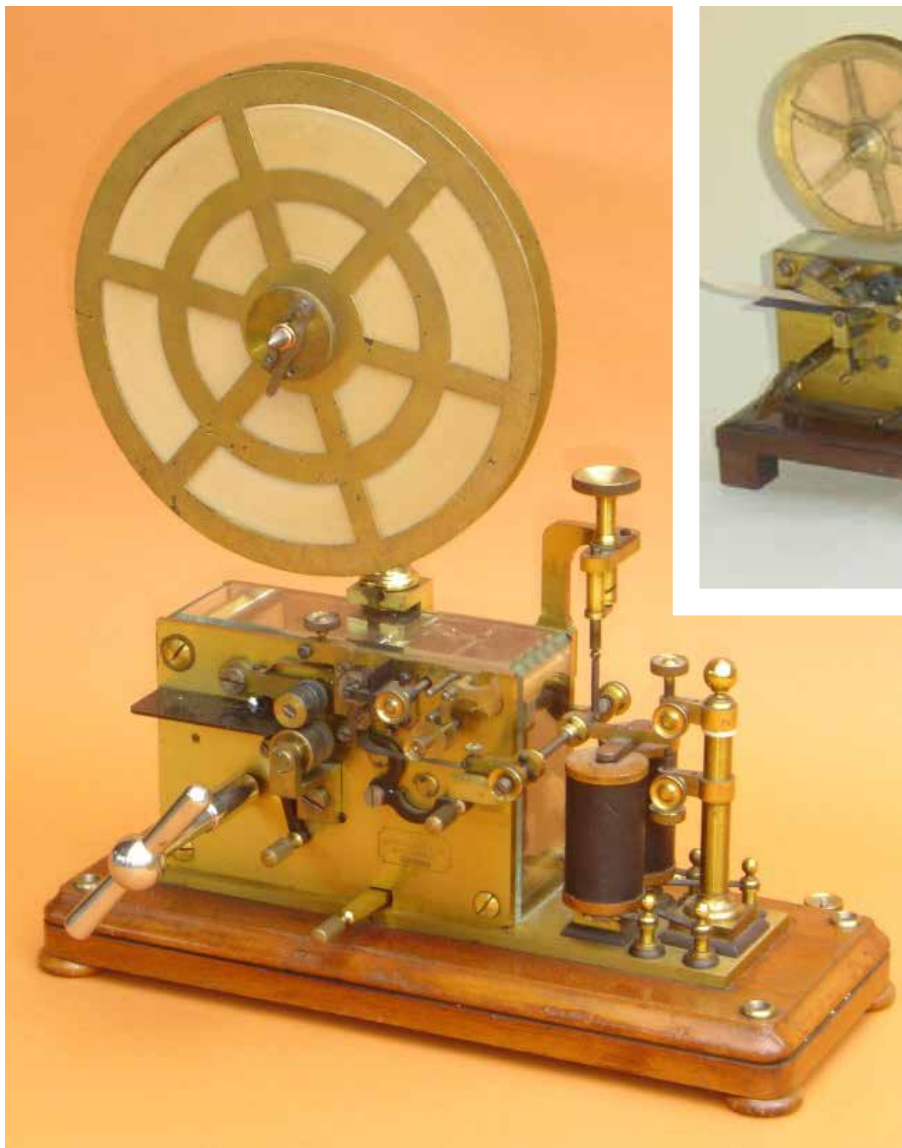
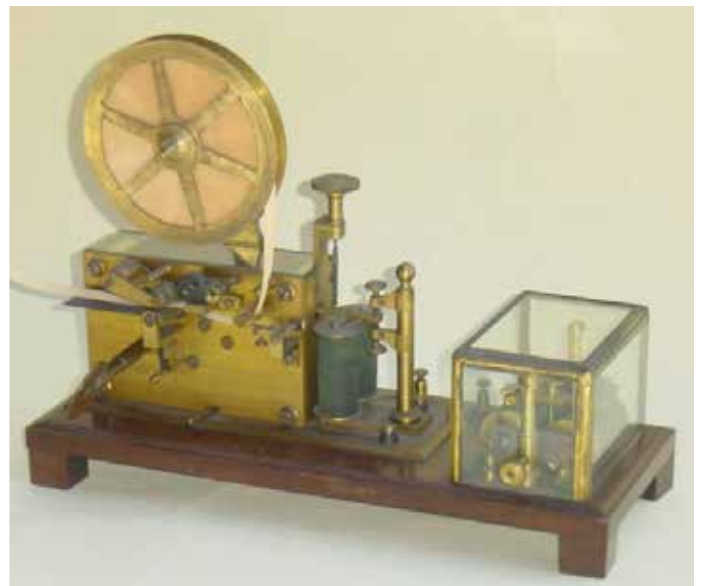

Fig 32
Fig 33
At first sight it may seem remarkable that the basic design (fig. 32 and 34) has lasted from the very beginning (1878?) for about seven decades (end of the 1940s, I suppose). But we have seen this before. First I have to note that the design of Lars's first model (catalogue from 1886, but probably older) corresponds almost perfectly with the one of the much earlier telegraphs designed and made by Digney in Paris (fig. 33) in the 1860s. I am pretty sure that Lars acquired a license or just copied the design. But he is not alone; the same also happened, for example, here in Belgium. Our most typical telegraphs here -signed Richez, Van Hulle, Devos,...- are also a 1-to-1 copy from the Digney ones. In those I have found parts inside them signed Digney... Telegraphs of the second half of the 1900s were very solidly made. And all what they
*Telegraph 'model 1' (fig. 32)
Compare with this much older Digney one. (fig. 33) It appeared in the catalogue of 1886 (the first catalogue listed in 1.4.